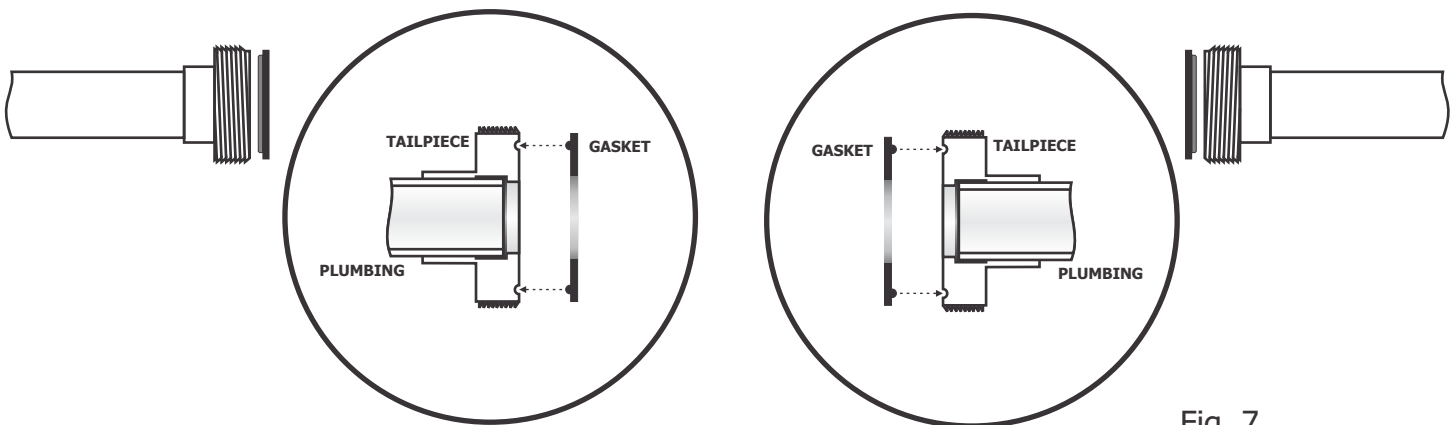

Fig. 7
- 3 - Remove two (2) heater gaskets included with your Pure Heat heater and install them onto the plumbing tailpieces, making sure the gasket ridge is seated in the tailpiece groove** (see Fig. 7). Remove one (1) union gasket and install at pump discharge.